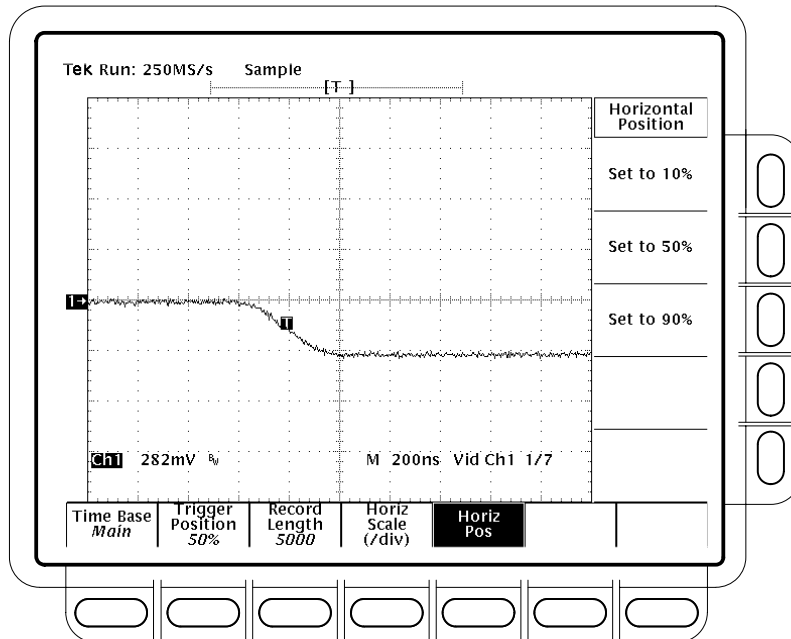

Figure 1–36: Line Count Accuracy Test Setup Waveform – TDS 684B Shown
- Verify that the cursor is positioned on a positive slope of the burst signal. See Figure 1–37.